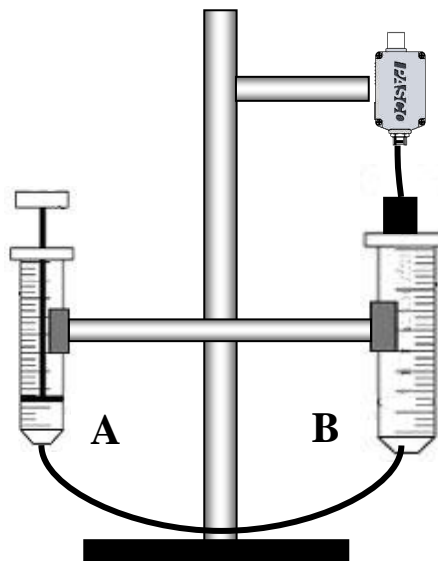

Figure 4: Measuring Pressure
1. We will now lead you through setting up the apparatus shown in Figure 4. Place the 10 cc syringe on the left side and the 50 cc syringe on the right side. We have found that if we clamp the syringes, then the pistons do not slide easily in the syringe. It is best to rest the upper lip of the syringe on the clamp instead of clamping the syringe. **Do not clamp the syringe as shown in Fig. 4.** Rather the clamp should be placed under the upper lip of the syringe just snugly enough to not let the syringe fall through the clamp. For the remainder of this investigation, we will refer to the left side of the apparatus as A and the right side as B. For example, syringe B is the syringe connected to the pressure sensor in Figure 4. **Leave the large rubber stopper off the 50 cc syringe for now.**
- Now raise piston A so it reads about 7 cc and place the large rubber stopper into the top of syringe B. The piston is not in syringe B at this time. See Figure 4. Notice that the piston in the 10 cc syringe remains suspended near the 7 cc level, even though the force of gravity is pulling it down. The force of gravity is offset by the force due to the air trapped in the syringes. This force is equal to the pressure of the air in the piston times the cross-sectional area of the piston.